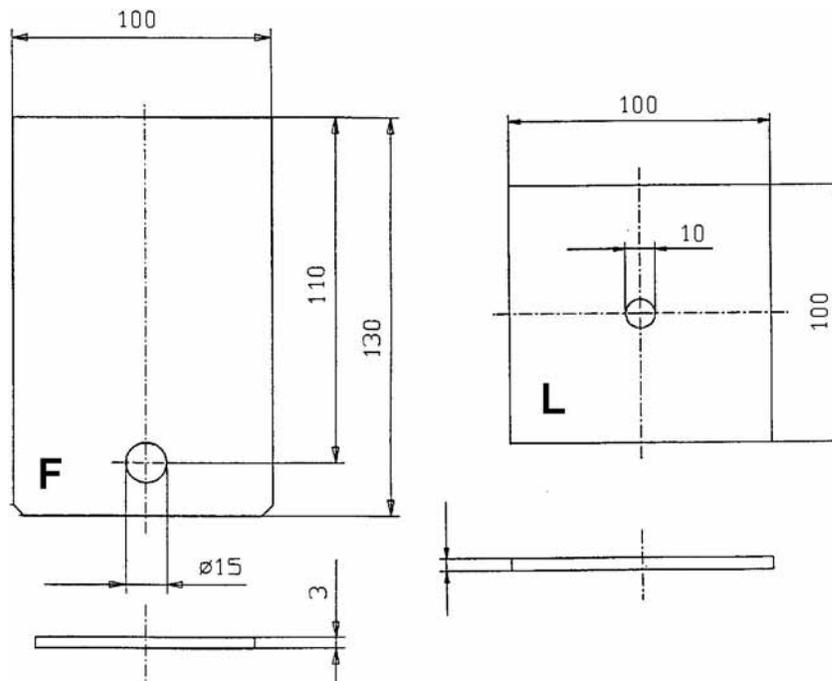

Figure 8: The sheet metal parts F and L
8. Place the 100×100×3 mm sheet metal (L, see figure 8) with the 10 mm boring in the center on the top center of the model.
2. Add the 2 sheet-metal pieces (F, see figure 8) $150 \times 100 \times 3$ mm to the bar on both ends by pushing the bar through the 14 mm holes.